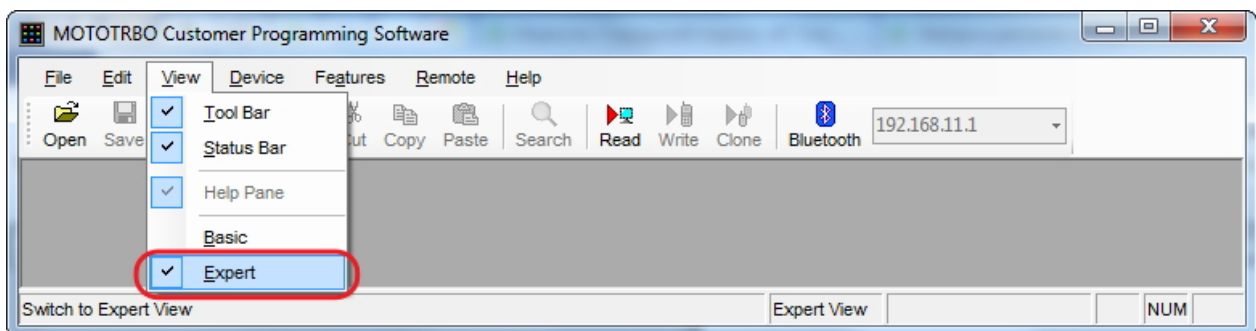

Fig. 3 - Selecting Expert View in CPS
3. In the **View** menu select **Expert** to gain access to all the setting parameters (Fig.3).